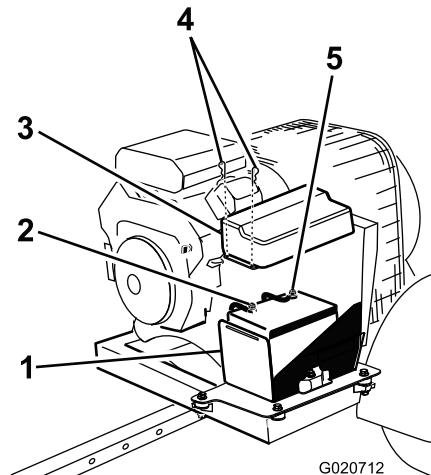

Figure 5
2. Attach the positive cable (red cable) to the positive (+) terminal (Figure 5).
3. Attach the negative cable (black cable) to the negative (-) terminal of the battery (Figure 5).